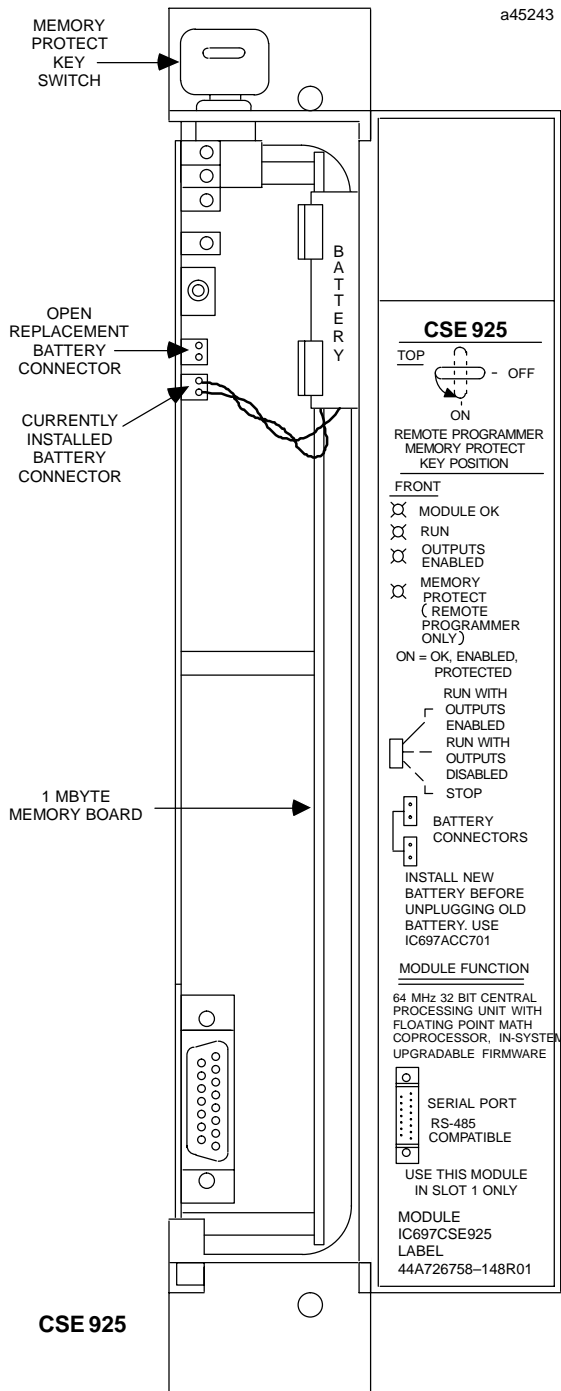

Figure 1. CSE 925 - Location of Major Features
- Connect the battery to either of the battery connectors on the module (see Figure 1).